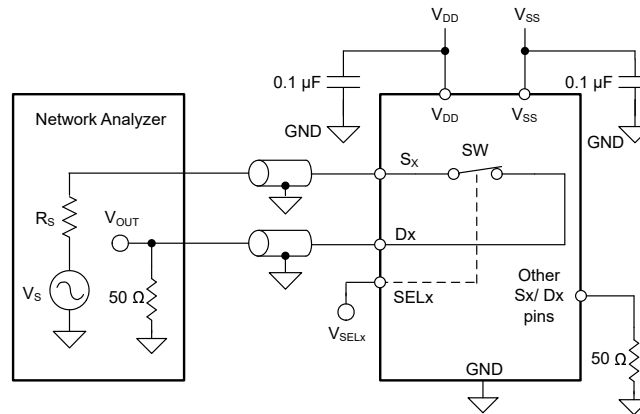

Figure 8-8. Bandwidth Measurement Setup
Bandwidth (BW) is defined as the range of frequencies that are attenuated by < 3 dB when the input is applied to the source pin (Sx) of an on-channel, and the output is measured at the drain pin (Dx). Figure 8-8 and Equation 3 shows the setup used to measure bandwidth of the switch.